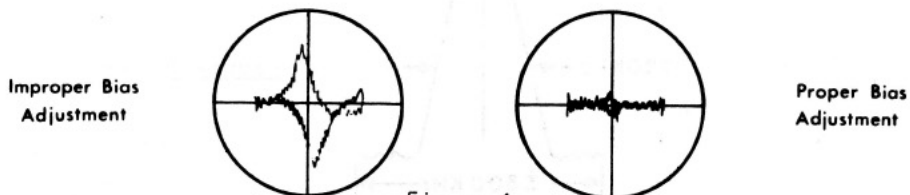

Figure 4
4. Using the Harmonic Distortion Analyzer, looking at the distortion of the amplifier properly nulled, make the adjustment as follows: Adjust the bias for class "AB" operation by turning the bias potentiometer VR601a so that the crossover is at the point of being eliminated. NOTE: Class "A" operation (continued CW rotation) causes the output transistors to draw excessive current and overheat. Refer to Figure 4 below.